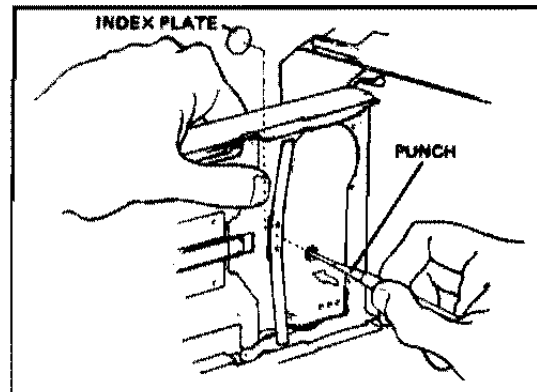

FIG. 4-3 FORCING OUT THE INDEX PLATE
- a. Open the rear door and force out the index plate from the knob using a 1/16th inch drive pin punch (Figure 4-3).